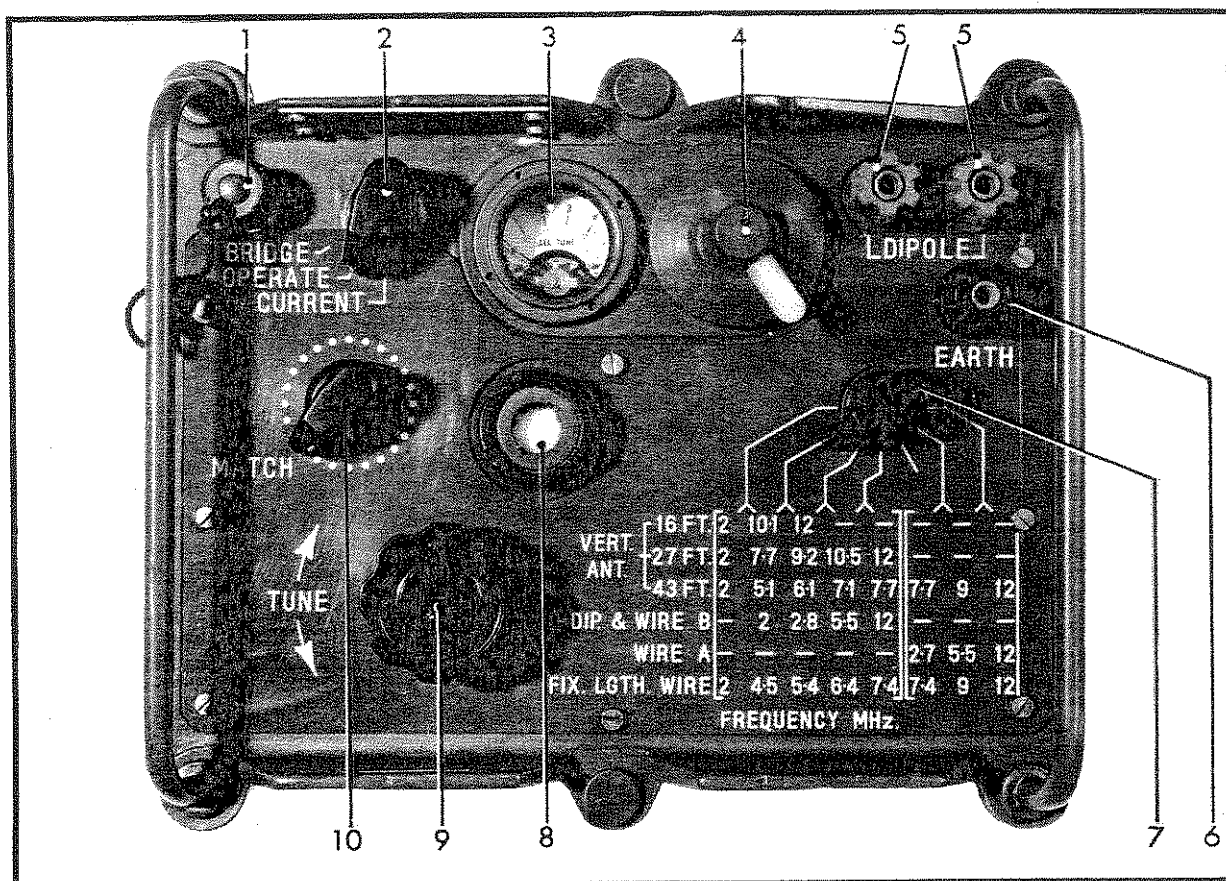

FIG 28 FRONT PANEL - COUPLER ANTENNA, CU-F2
67. This section describes the type, location and function of the controls, connectors, and associated items located on the front panel. The items are illustrated in Fig 28 and described in Table 5.